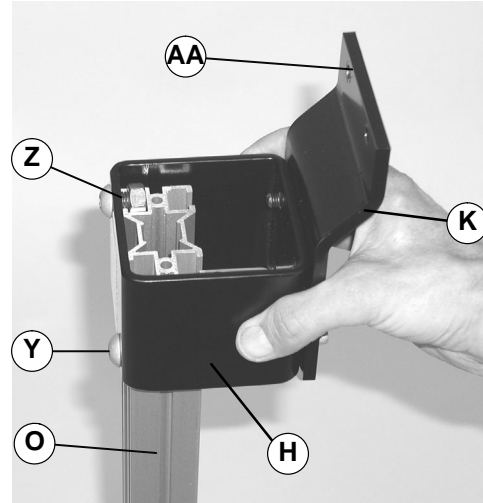

Figure 10
- Align hex nuts (Z of Figure 10) on leg support (H) to t-slots at top, outside of stand leg (O). Slide leg
WARNING Failure to secure screws (Y of Figure 10) may cause conveyor sections to drop down causing severe injury. TIGHTEN SCREWS (Y) AFTER ADJUSTMENT.
20. Tighten four button head screws (Y of Figure 10) to 17 ft-lb (22.5 N-m).